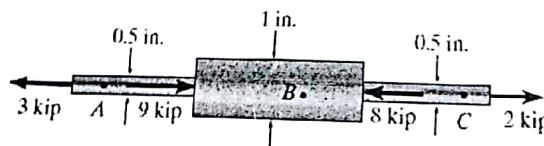

Fig. 5
5. Determine the average normal stress developed at points A, B, and C. The diameter of each segment is indicated in the figure 5.